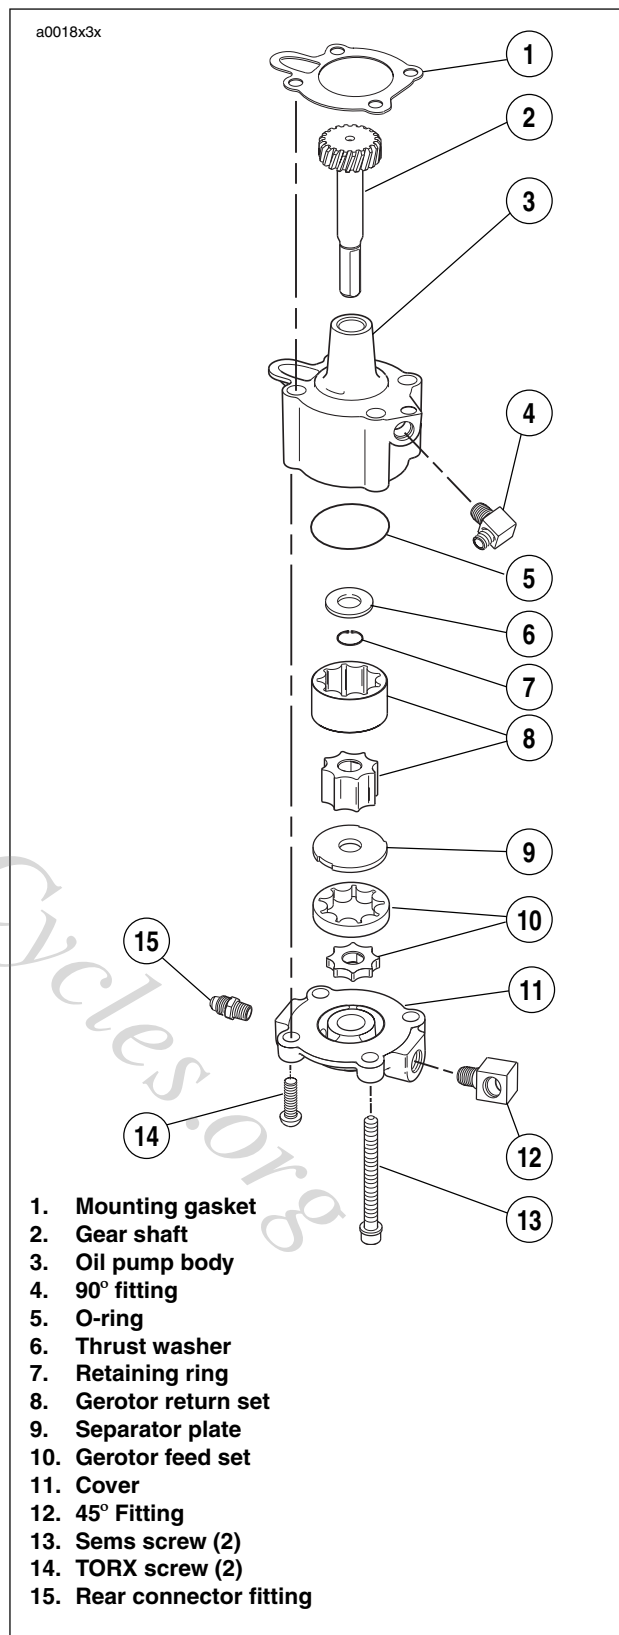

Figure 3-118. Oil Pump
See Figure 3-118. The oil pump consists of two gerotor gear sets, feed and return, housed in one pump body. The feed set distributes oil to the engine, the scavenge set returns oil to the tank/frame reservoir.
3. See Figure 3-118. Check gear shaft teeth for damage or wear. Replace if necessary.
1. See Figure 3-118. Install gear shaft through body. Position thrust washer over end of shaft. Install **new** retaining ring into groove in shaft.
6. See Figure 3-118. Place gerotor feed set over gear shaft.